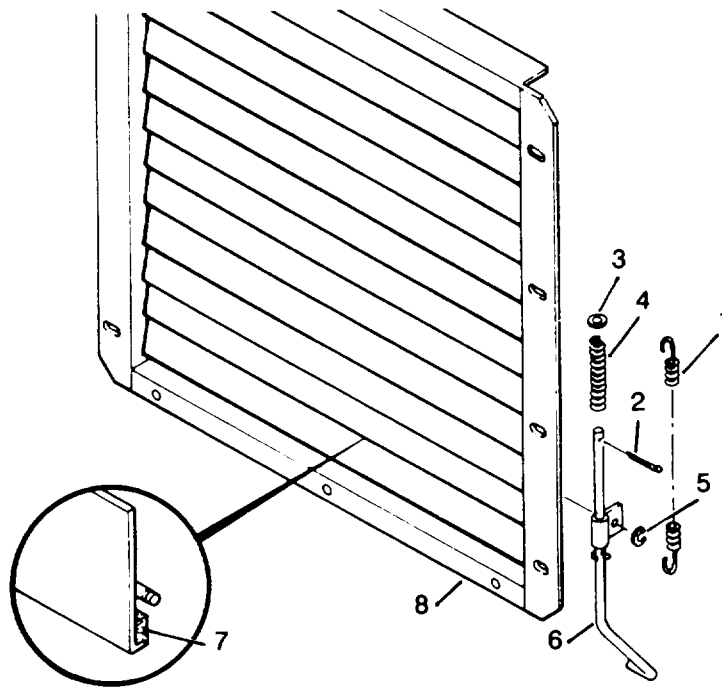

Figure 3-27. Shutter Assembly, Exploded View
(1) Remove spring (1, figure 3-27).
(2) Remove cotter pin (2) to remove retainer (3) and spring (4).
(3) Remove retainer (5) to remove control lever (6).
(4) Remove any damaged or deteriorated seals (7) from vanes of shutter (8).
- (1) Position Shutter (8, figure 3-27) to install new seal (7).
- (2) Install control lever (6) and retainer(5).
- (3) Install spring (4), retainer (3) and cotter pin (2).
- (4) Install spring (1).